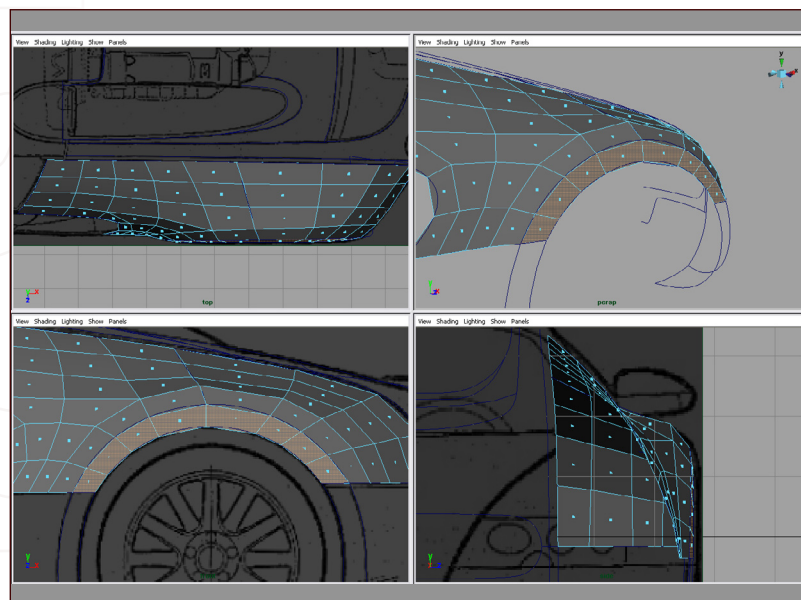

Fig 45
38. To finish the rear fender just grab the edges surrounding the wheel arch and extrude inwards (**Fig45**), then snap to the curve.